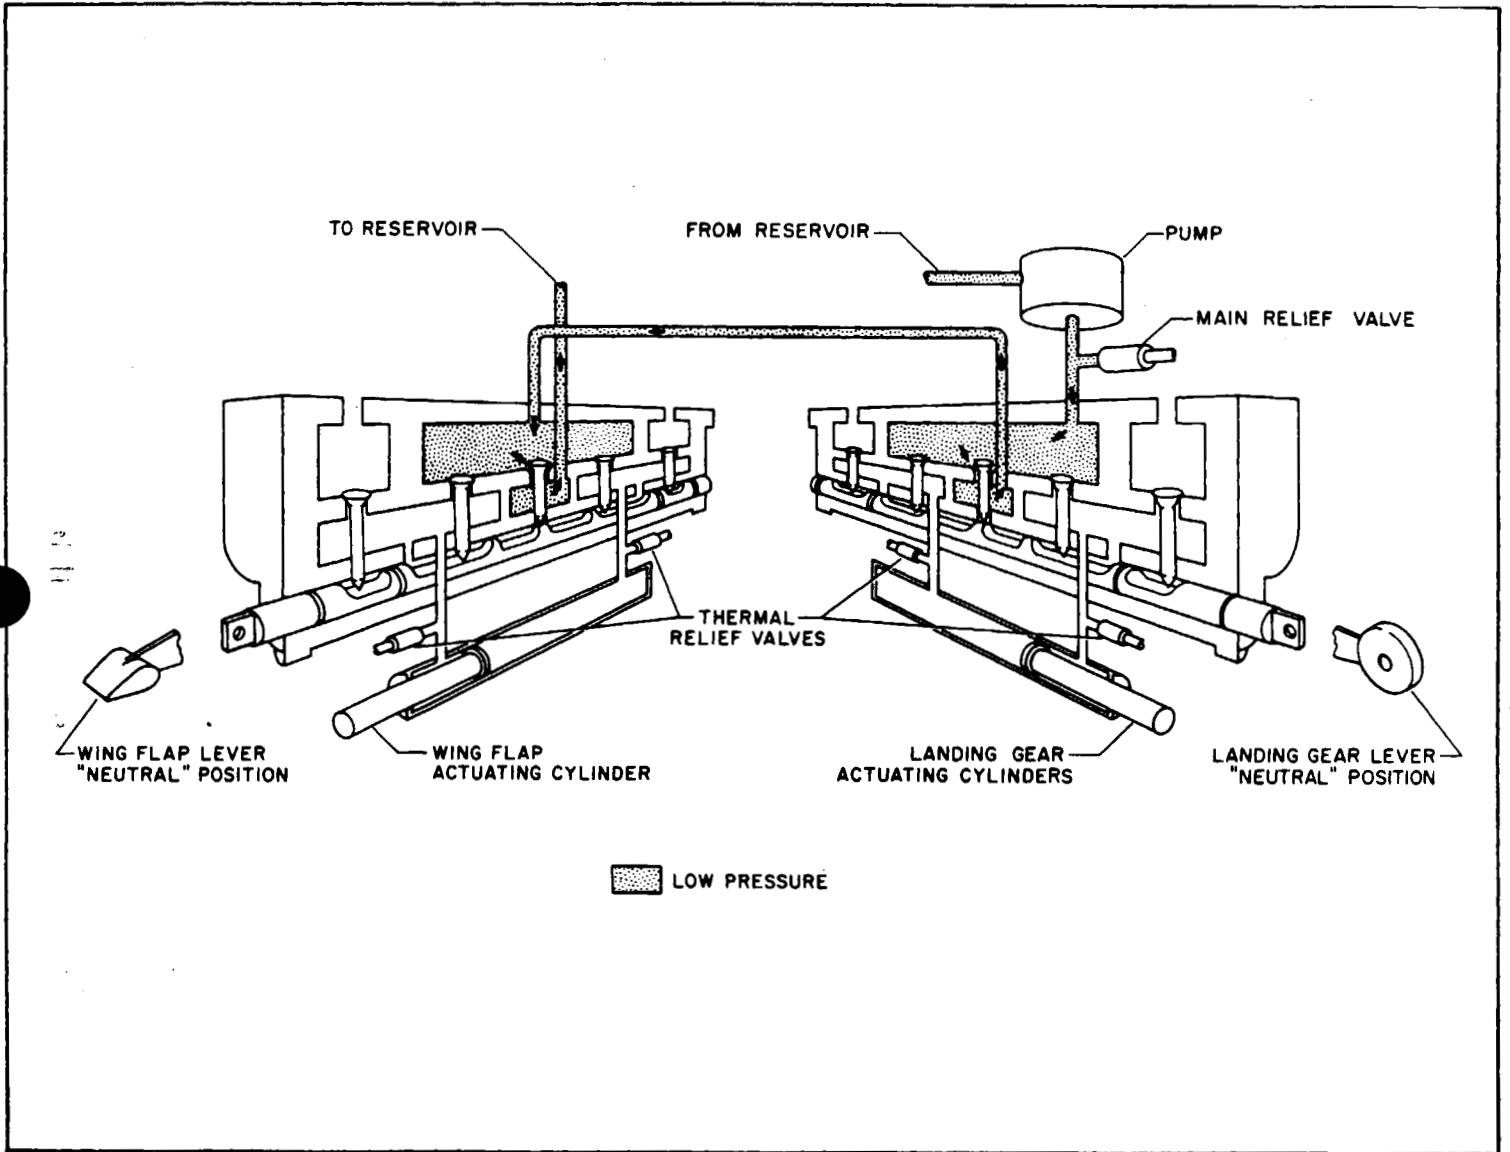

Figure 6-6. Flow Diagram Both Selector Levers Neutral
c. "LANDING GEAR" selector lever "NEUTRAL". When the selector lever is in the neutral position, fluid flows back to the reservoir, as shown in Figure 6-6.